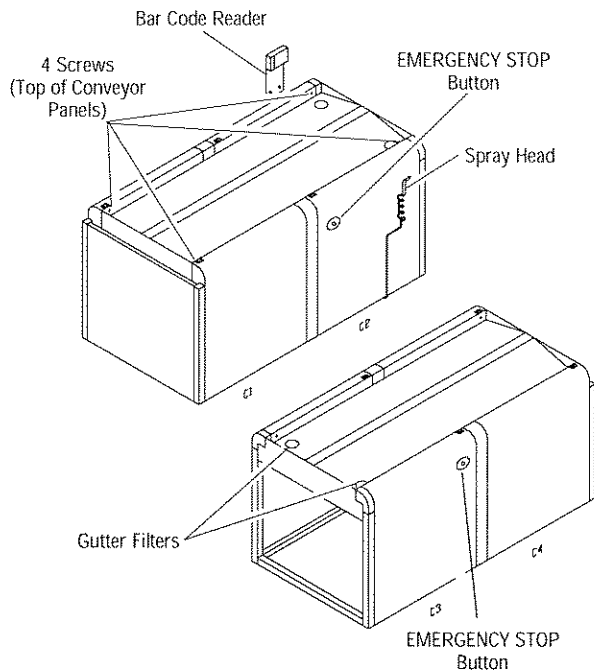

Figure 6-1. Amsco Reliance 444 Load and Unload Modules
3. Remove side panel (see Figure 6-1).
4. Remove filters from module drain holes (see Figure 6-1).